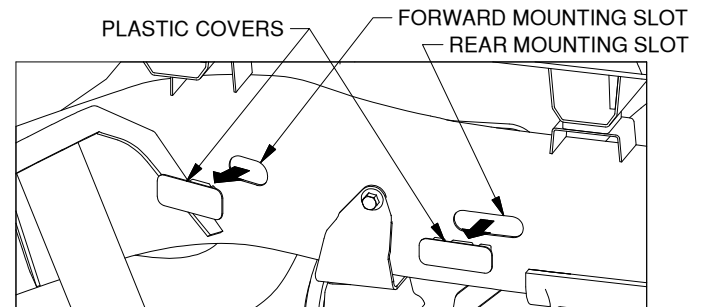
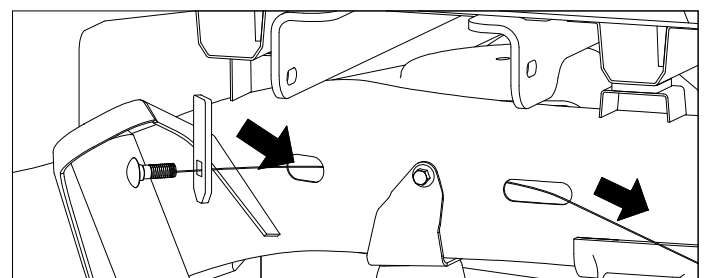
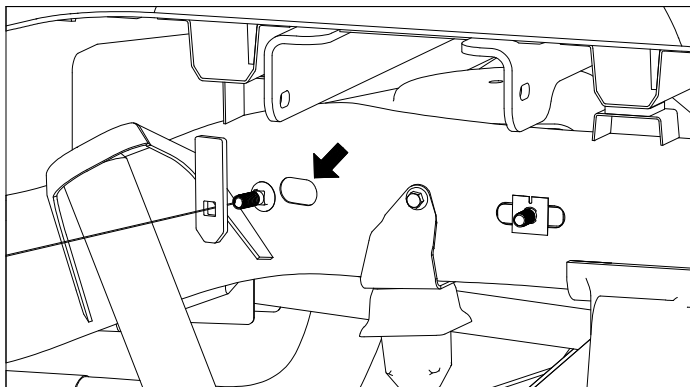
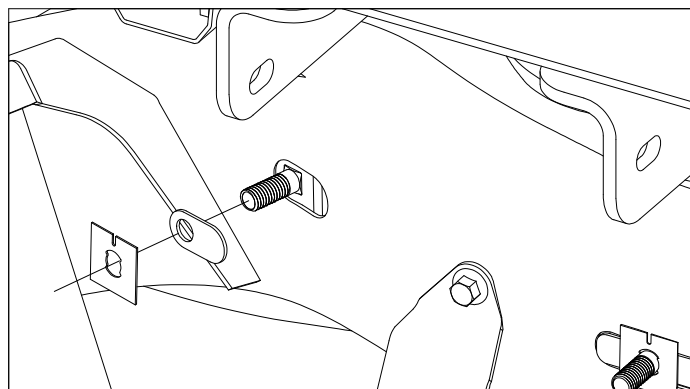

Figure A9: View looking into driver side wheel well.
Figure A10: View looking into driver side wheel well.
Figure A12: View looking into driver side wheel well.
Figure A13: View looking into driver side wheel well.
13. **Prepare to install carriage bolts.** Locate the plastic slot covers inside each rear wheel well, as shown in Figure A9. Remove four covers by prying them out of the frame. Discard the covers.
14. **Fish rear carriage bolt.** Locate the forward and rear mounting slots shown in Figure A9. Thread a 1/2" x 1-1/2" carriage bolt and locking strap onto a fish wire. Pass the fish wire from the forward mounting slot through the frame and out of the rear mounting slot, as shown in Figure A10.
16. **Install forward carriage bolt.** Locate the forward mounting slot shown in Figure A9. Thread a carriage bolt and locking strap onto a fish wire. Insert the carriage bolt and locking strap through the mounting hole until both are completely inside the frame and only the carriage bolt is passing through the hole, see Figure A12. Install the oval frame spacer onto the bolt and place it into the slot in the frame, as shown in Figure A13. Thread a retainer onto bolt until it is snug. Repeat Steps 14-15 on other side of truck.